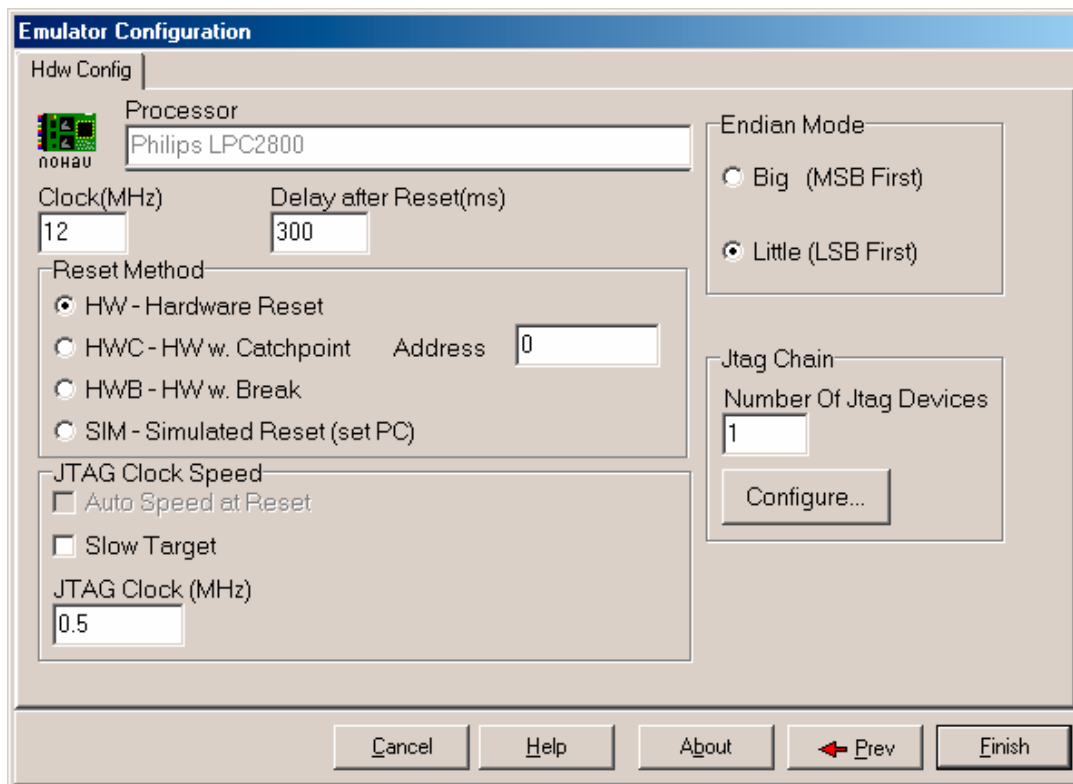

Figure 2-15: Emulator Configuration Window Displaying the Hdw Config Tab
5. Click **Next**. The **Hdw Config** tab opens (Figure 2-15).